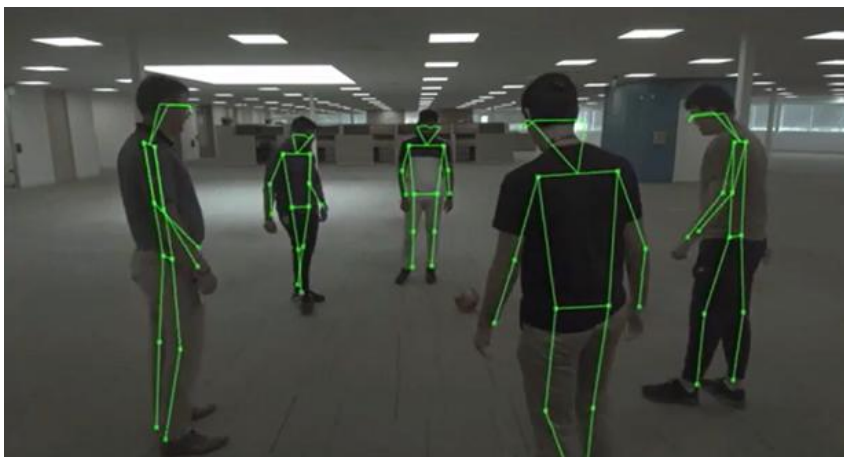

Figure 6.32. Live Body Pose Estimation Output
3. Run the body pose estimation example to display live pose tracking in the video, as shown in Figure 6.32. You can check the parameter configurations listed in this command: